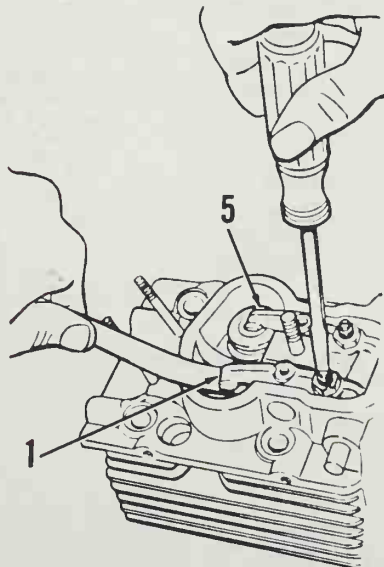

Fig. W1-5—Refer to text for adjustment of exhaust (1) and intake (5) valve tappet gap.
Valve tappet gap may be adjusted after removing rocker arm cover. Valve tappet gap with engine cold should be 0.15 mm for exhaust valve (1—Fig. W1-5) and 0.10 mm for intake valve (5) on Models WD1-340, WD1-350 and WD1-430, or 0.20 mm for both valves on Models WD1-660, WD1-670 and WD1-750.